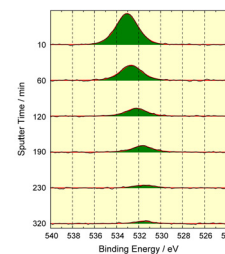

Fig. 9. Plot 3-D Waterfall 0° Plus: Peak fit O 1s
5. Plot 3D-Waterfall 0° Plus: Plot of fitted spectra (see Fig. 9, 15, 21),